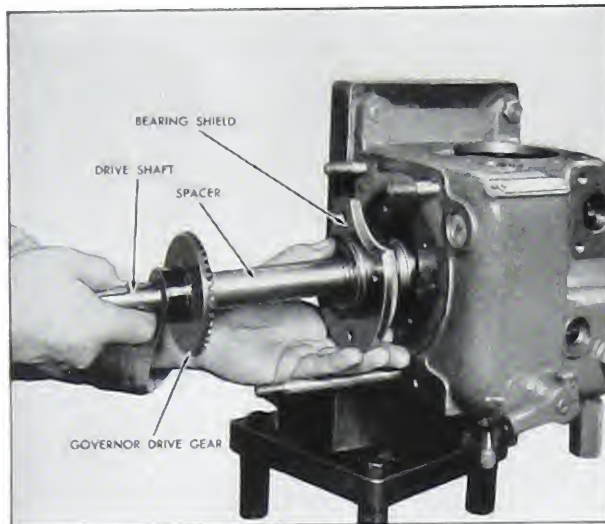

Fig. 5-11. Main shaft and bearing shield
4. Push the cam rocker lever down to clear the distributor drive gear on the main shaft. Tap the end of the main shaft with a soft hammer and remove the shaft assembly from the main housing. Fig. 5-11.